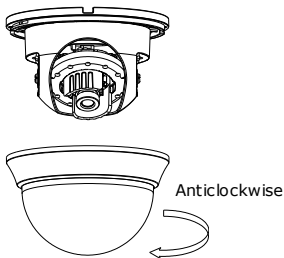

Figure 2-1 Remove the Lower Dome
1. Rotate the lower dome anticlockwise to remove it as shown in Figure 2-1.